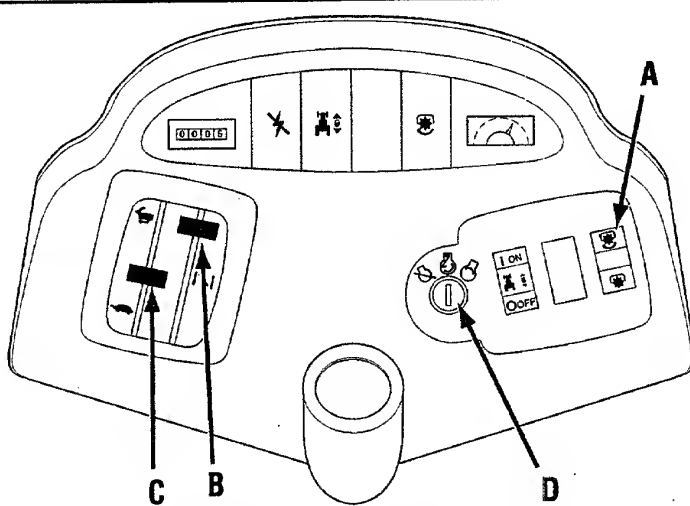
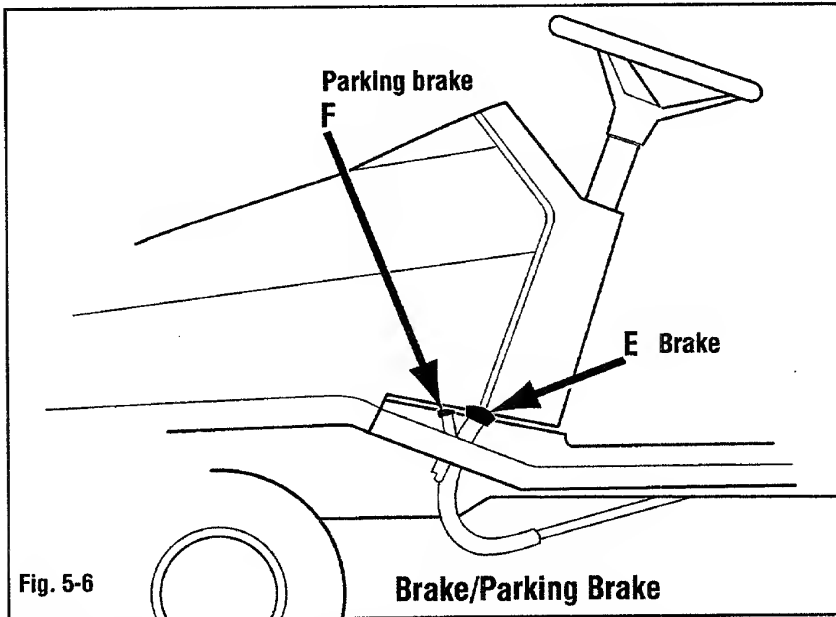

Fig. 5-5
Fig. 5-6
- Do not start the unit until all the steps of the pre-operation checklist at the beginning of this section have been completed. After completing these checks, set parking brake (F, Fig. 5-6), place attachment/PTO drive switch (A, Fig. 5-5) into the  (disengaged) position. Unit will not start if brake (E) is not depressed and/or attachment/PTO drive is engaged.
Drive unit slowly and check clutch/brake operation by depressing clutch/brake pedal (E, Fig. 5-6). Unit should stop. Set parking brake by pressing parking brake pedal (F) with toe when brake pedal (E) is fully depressed. To release parking brake, depress clutch/brake pedal (E) and release. If any problems are found, stop and service unit before continuing.